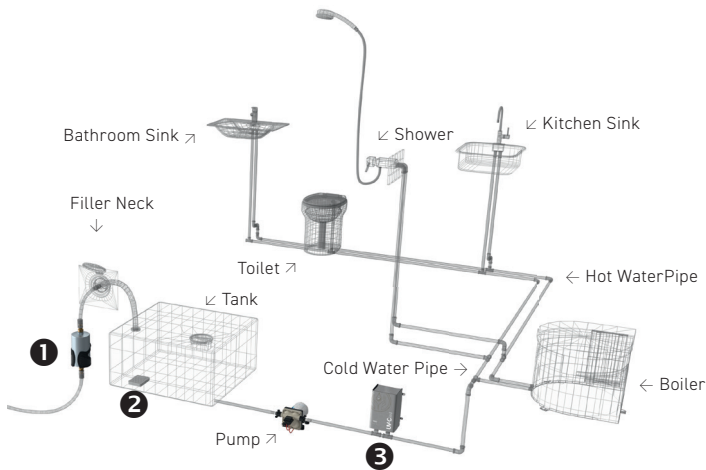

Figure 1: Installation Recommendation in a Mobile Freshwater System
How these risks can be excluded is shown in Figure 1, a practical example of how a freshwater system can be operated holistically hygienically. As a first step, we recommend pre-filtration ① (here: WM Filter), as well as preservation of the water (here: Silvernet Flex) ②. The preservation extends over the entire freshwater system and reduces re-contamination or additional contamination of the water during storage. Then the water passes through the UV unit and is freshly disinfected at the point of water withdrawal ③.